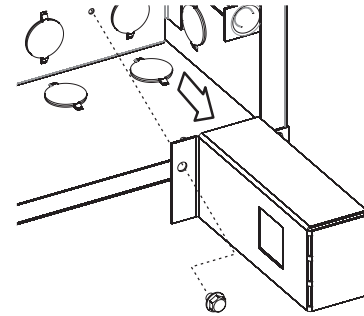

Figure 25
- Remove internal junction box by removing single screw. See Figure 25.